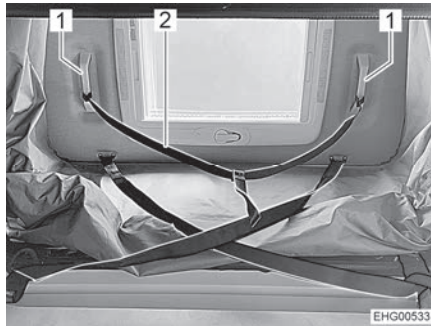

Fig. 67 Auxiliary strap
- Slowly pull the elevating roof down two thirds by the auxiliary strap (Fig. 67,2) until the elevating roof stops on its own. While doing so, observe the following:
- Pull the elevating roof down completely using the two U-handles (Fig. 67,1) until the side locks snap in audibly.